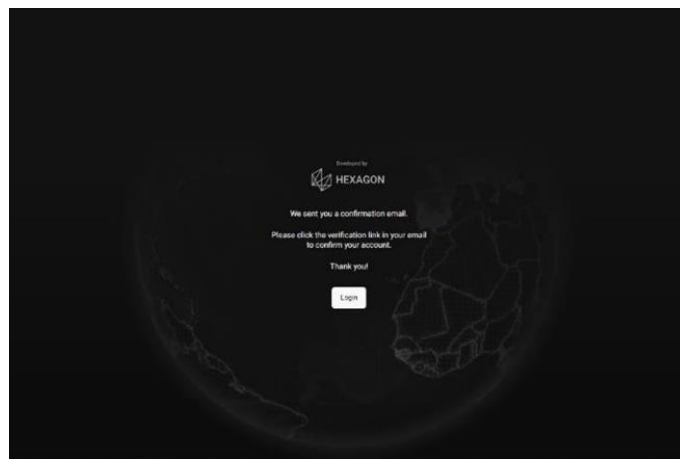

Fig. 16 AiMaps activation step 4
11. verify the link received at the e-mail address entered, and then press **login** to confirm (Fig. 16),